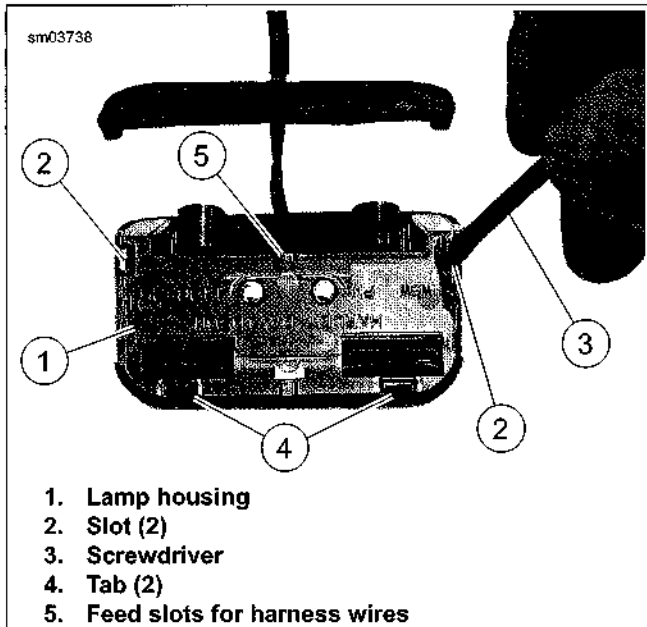

Figure 6-56. Removing License Plate Lamp Housing Cover: XL 883N, XL 1200X/V (HDI)
- See Figure 6-56. Insert the tip of a small flat bladed screwdriver (3) into each slot (2) in lamp housing. Gently tilt screwdriver handle outward (away from lamp housing) enough to disengage housing from cover. Separate housing from cover. Slide housing away from tabs (4) in cover.